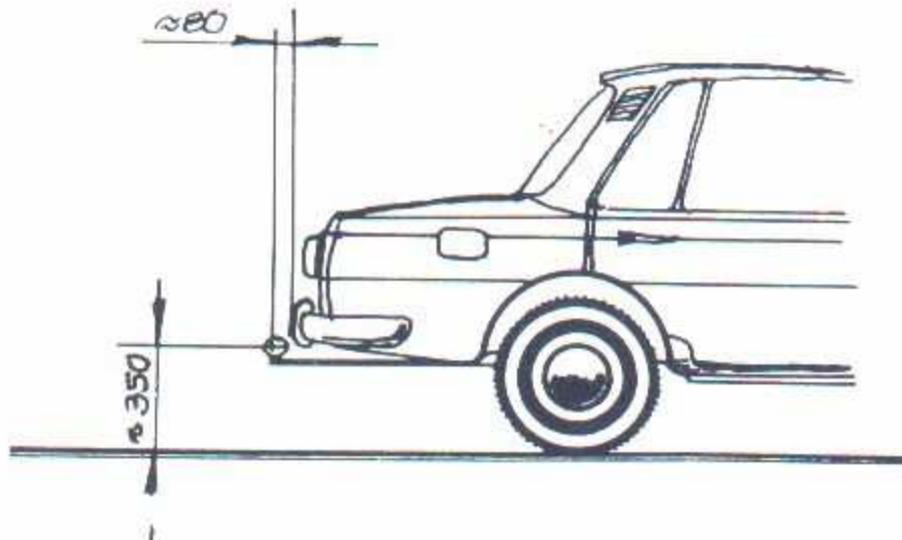

Fig. 1
2.1 The supporter train appliance is to be attached to the tractive unit according to the measures of the fig. 1. It is to be noticed in this case that only getypte supporter train appliances may be used.